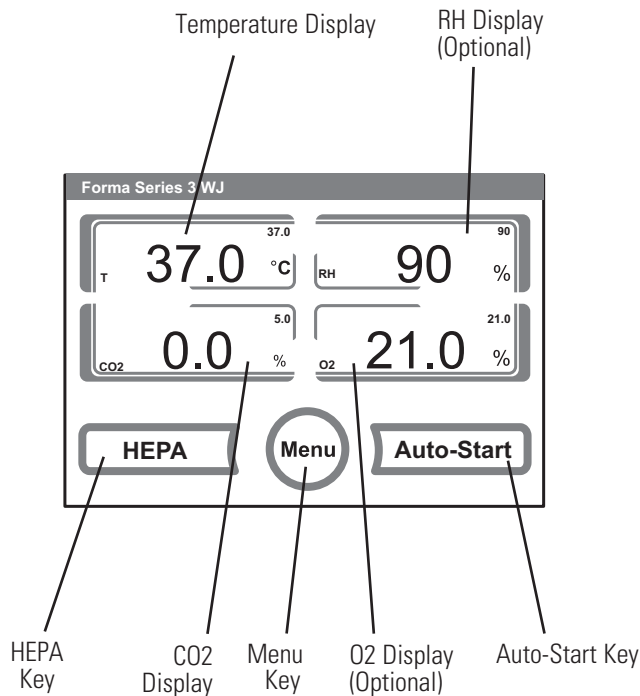

Figure 2-2. Control Panel
- Control Panel - Keypad, Displays and Indicators (Figure 2-2).